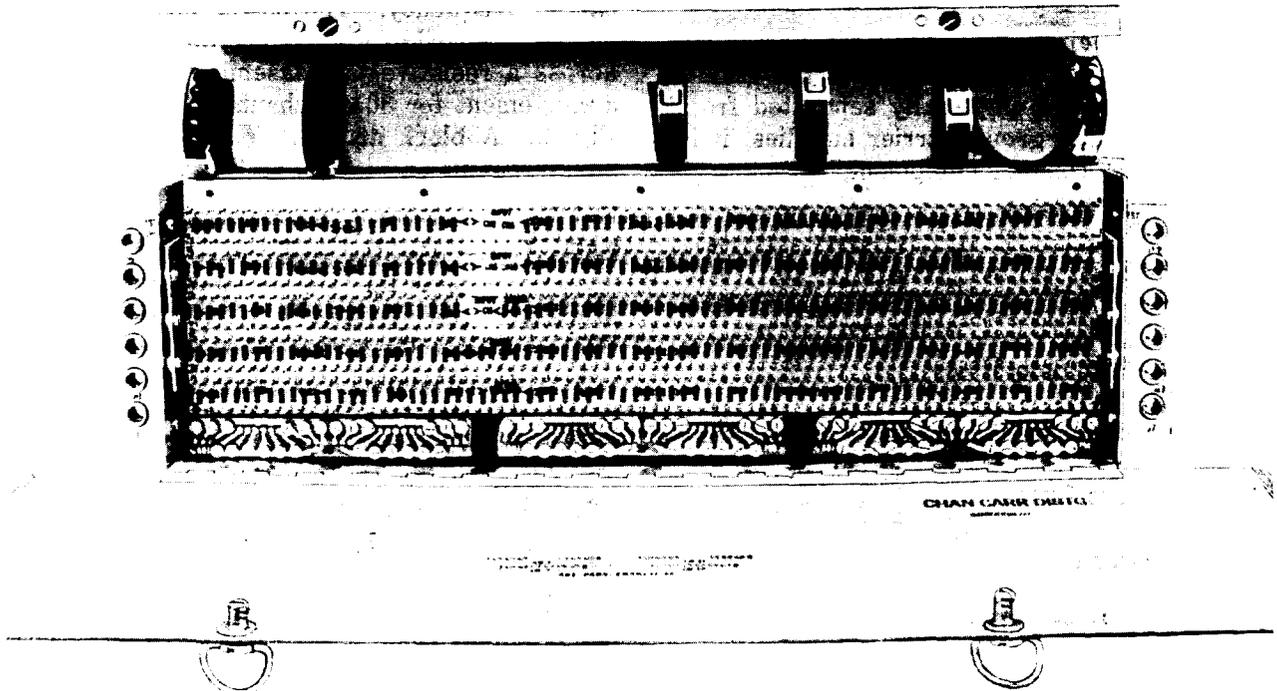
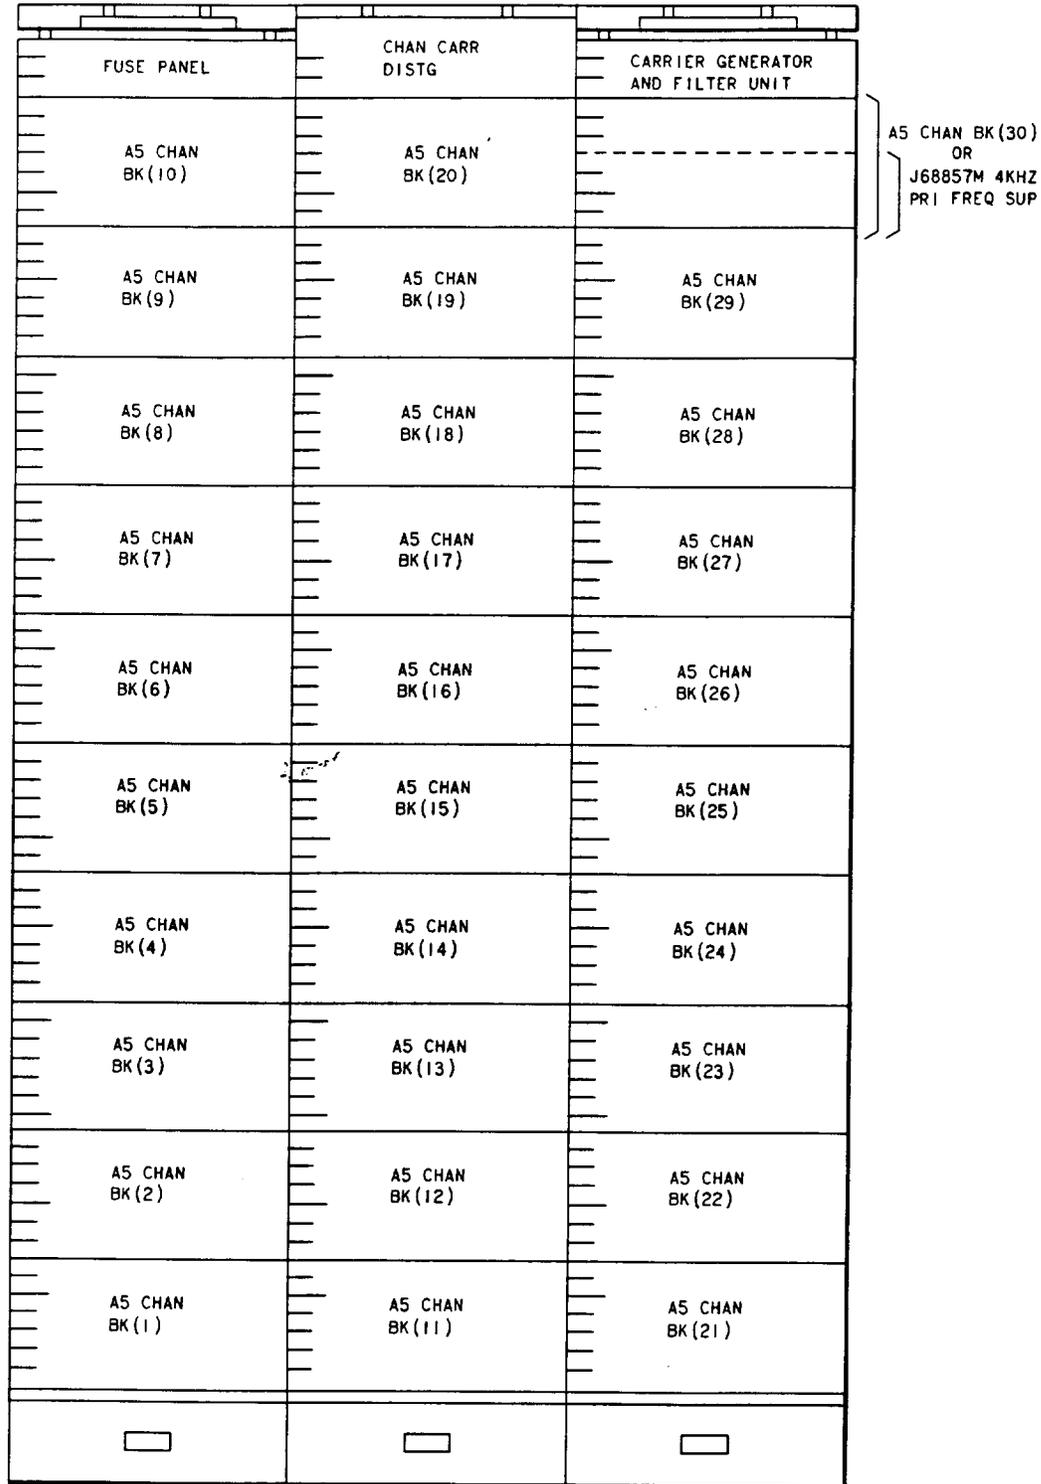
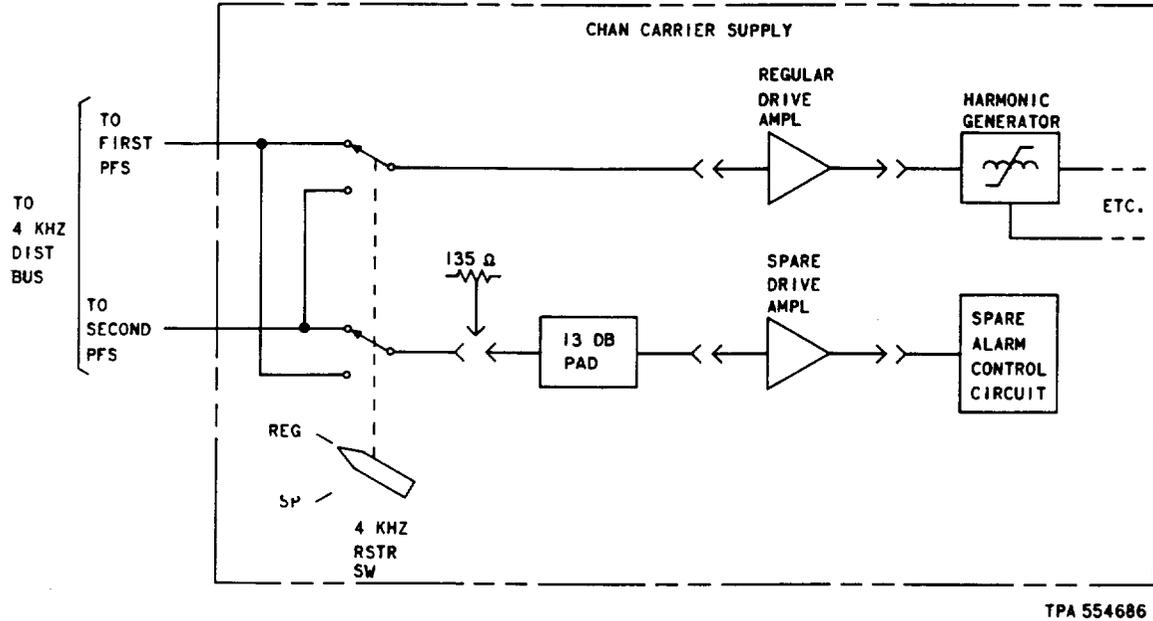

Fig. 2—J68857A Channel Carrier Distributing Unit—Front Cover Lowered
Fig. 3—Typical Bay Arrangement for 30 A5 Channel Banks
Fig. 4—Channel Carrier Supply—Block Diagram
2.04 The selected carrier frequencies are connected to individual distribution buses within the J68857A distribution unit (Fig. 2). The distribution unit supplies the 12 carrier frequencies to a maximum of 30 channel modems. Test jacks at the distribution unit are provided to measure the power of each carrier frequency. The power level at each bus may be adjusted by means of screw-down connectors across a resistive pad assembly. A typical bay arrangement for 30 A5 channel banks is shown in Fig. 3. A block diagram of the channel carrier supply circuit and its connecting circuits is shown in Fig. 4.
The purpose of the switch is to provide manual restoration of the channel carrier supply in the event of failure of the regular 4-kHz source (see Fig. 4).
3.03 Both the carrier generator unit and the distribution unit are generally mounted at the top of the bay containing the associated A5 channel banks (Fig. 3).